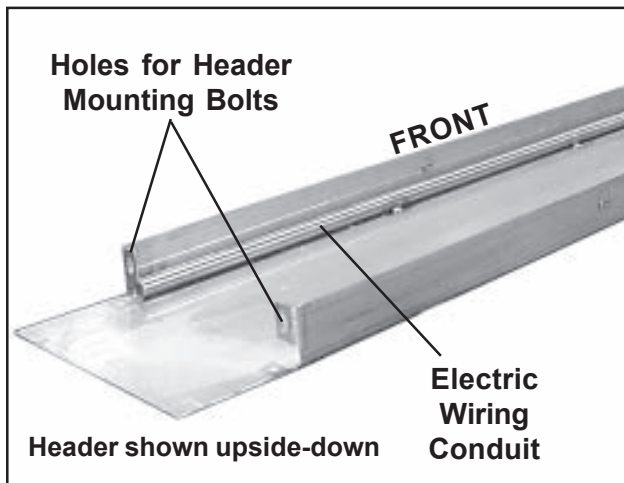

Figure 3. Typical Header
1. Pass Cable C through the electric wiring conduit in the header (Figure 3). The end of the cable with two bare wires and one loop connector must go to the right column.